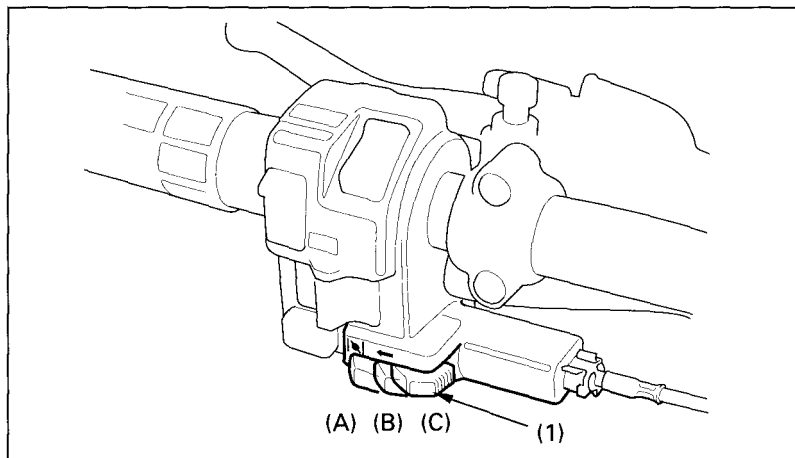

Fig. 3-9 (1) Choke lever
3. After the engine has warmed up, move the choke lever (Fig. 3-9) right to the fully OFF. (C)